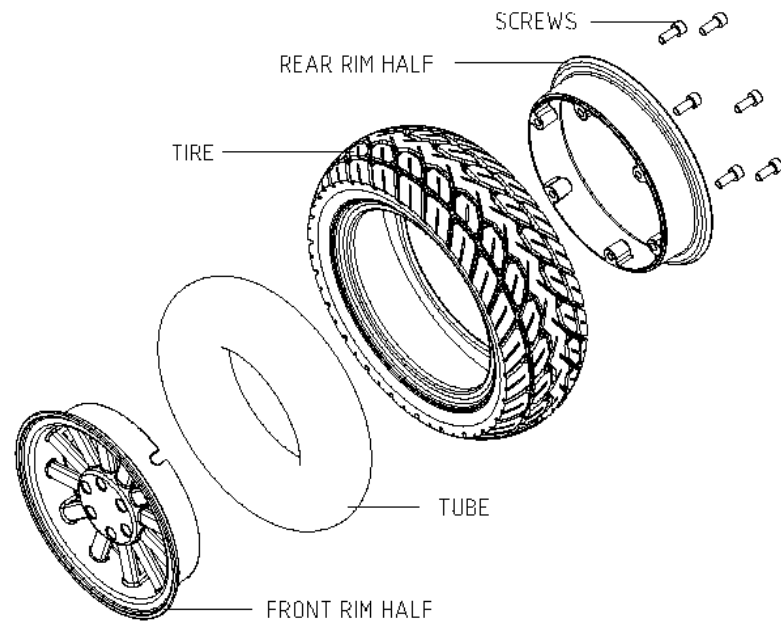

Figure 21: Replacing the tire tube
5. Take the two rims apart and remove the tube (Figure 21).